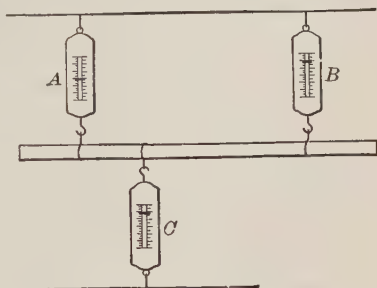

FIGURE 533.
EXPERIMENT 138. — Attach cords and spring scales to a meter stick, as shown in Figure 533. Draw the cords tightly enough to cause scale *C* to read nearly its maximum.
**361. Moments.** — In the preceding experiment, where three parallel forces acting on a body are in equilibrium, we have seen that translatory motion was impossible because the sum of the forces in one direction equaled the force in the opposite direction. If the stick is stationary, this will be true no matter how many parallel forces act on the bar. But it is also shown that the effectiveness of a force in rotating the stick depends upon the position of the force, as well as upon the amount of the force. The second condition of equilibrium of parallel forces is that the turning effects of the several forces must also be balanced. *The turning effect of a force is called the moment of the force; the moment of force is measured by the product of force  $\times$  force arm, the force arm being the perpendicular distance from the line of the force to the center of rotation (Figures 533 and 534).* According to the law of moments, when a body is in equilibrium, the sum of the moments of force tending to rotate the body in a clockwise direction must equal the sum of the moments tending to rotate the body in a counterclockwise direction. Referring again to the preceding experiment (138), it is seen that if  $C$  is taken as a center of rotation, or *fulcrum*, the moment of  $A$  about  $C$  (clockwise) equals the moment of  $B$  about  $C$  (counterclockwise). Any point on the stick may be considered as a fulcrum and the law still holds good; or any number of forces may act on the body without causing a departure from this principle.